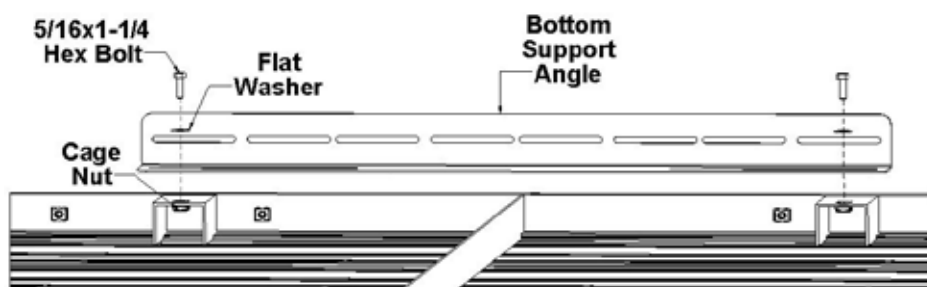
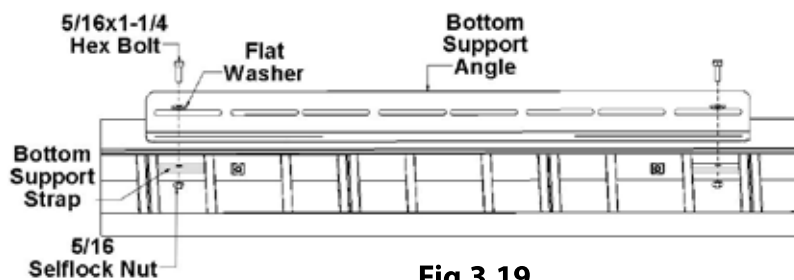

Fig.3.18
Fig.3.19
3.8 Platform Long Leg Support : Platform applications with a rise of 27" or greater require long leg supports. If the platform application requires long leg supports, attach the bottom support angles before assembling the platform. Turn the platform upside down and attach the bottom support angles centered on all four sides of the platform approximately 1 ½" from the edge of platform. The face of the bottom support bracket with the two long slotted holes should be against the underside of the platform plank, with the opposite side of the bottom support bracket facing out. On either side of the platform will be two welded support channels with pre-installed cage nuts in them (**Fig.3.18**). Place two of the bottom support angles across these support channels and fasten into place with a 5/16x1-¼ hex bolt and flat washer. On the two remaining sides, place two bottom support straps (a total of 4, 2 on each side) between the ribs of the plank and secure into place by rotating the bottom support straps onto the edge of the rib. Place the last two bottom support angles onto the bottom support straps and fasten either side into place with 5/16 x 1 hex bolt, flat washer and selflock nut (**Fig.3.19**).